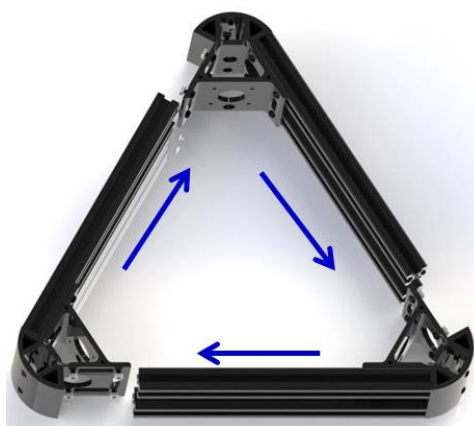

Fig. 5
Step 5. After 3 pieces of assembled A02 are ready, push them forward simultaneously to form the bottom triangle and then tighten the corresponding screws, just as Fig. 5 shows.